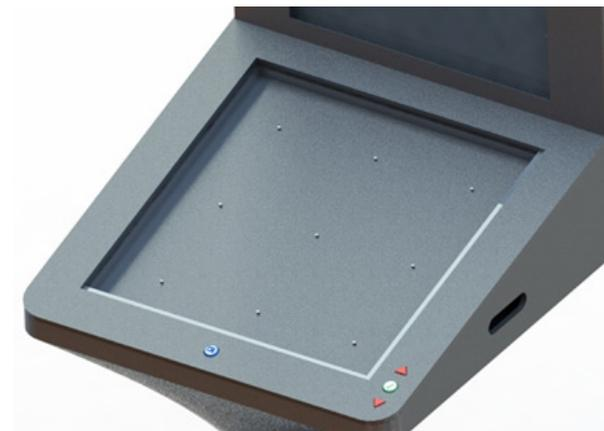

Figure 12 – Light sensors-Frame Base connection
Place the light sensors (1) into the respective gaps in the frame base (15), figure 11 and figure 12.